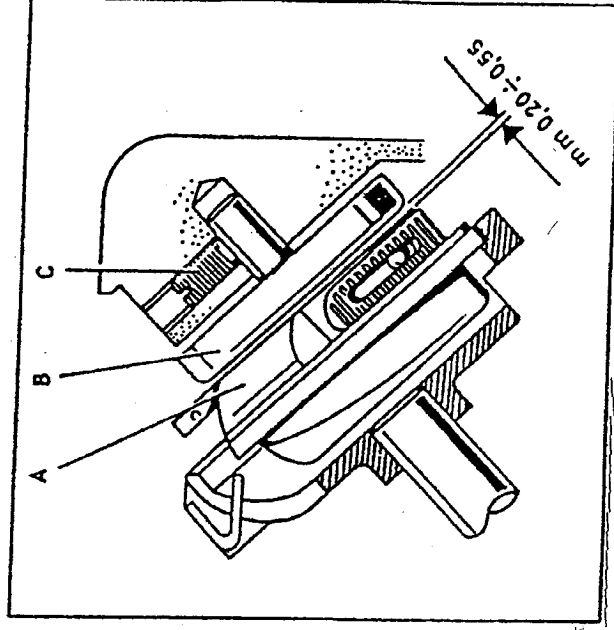

Fig. 11
16. DISTANCE BETWEEN BOBBIN CASE AND LATCH (fig. 11)